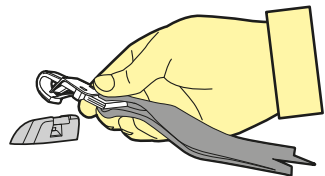

Figure 2
Step 3: Hook the attachment clip to the anchor fitting. Ensure there are no twists in the upper anchorage strap (Refer to Figure 2).